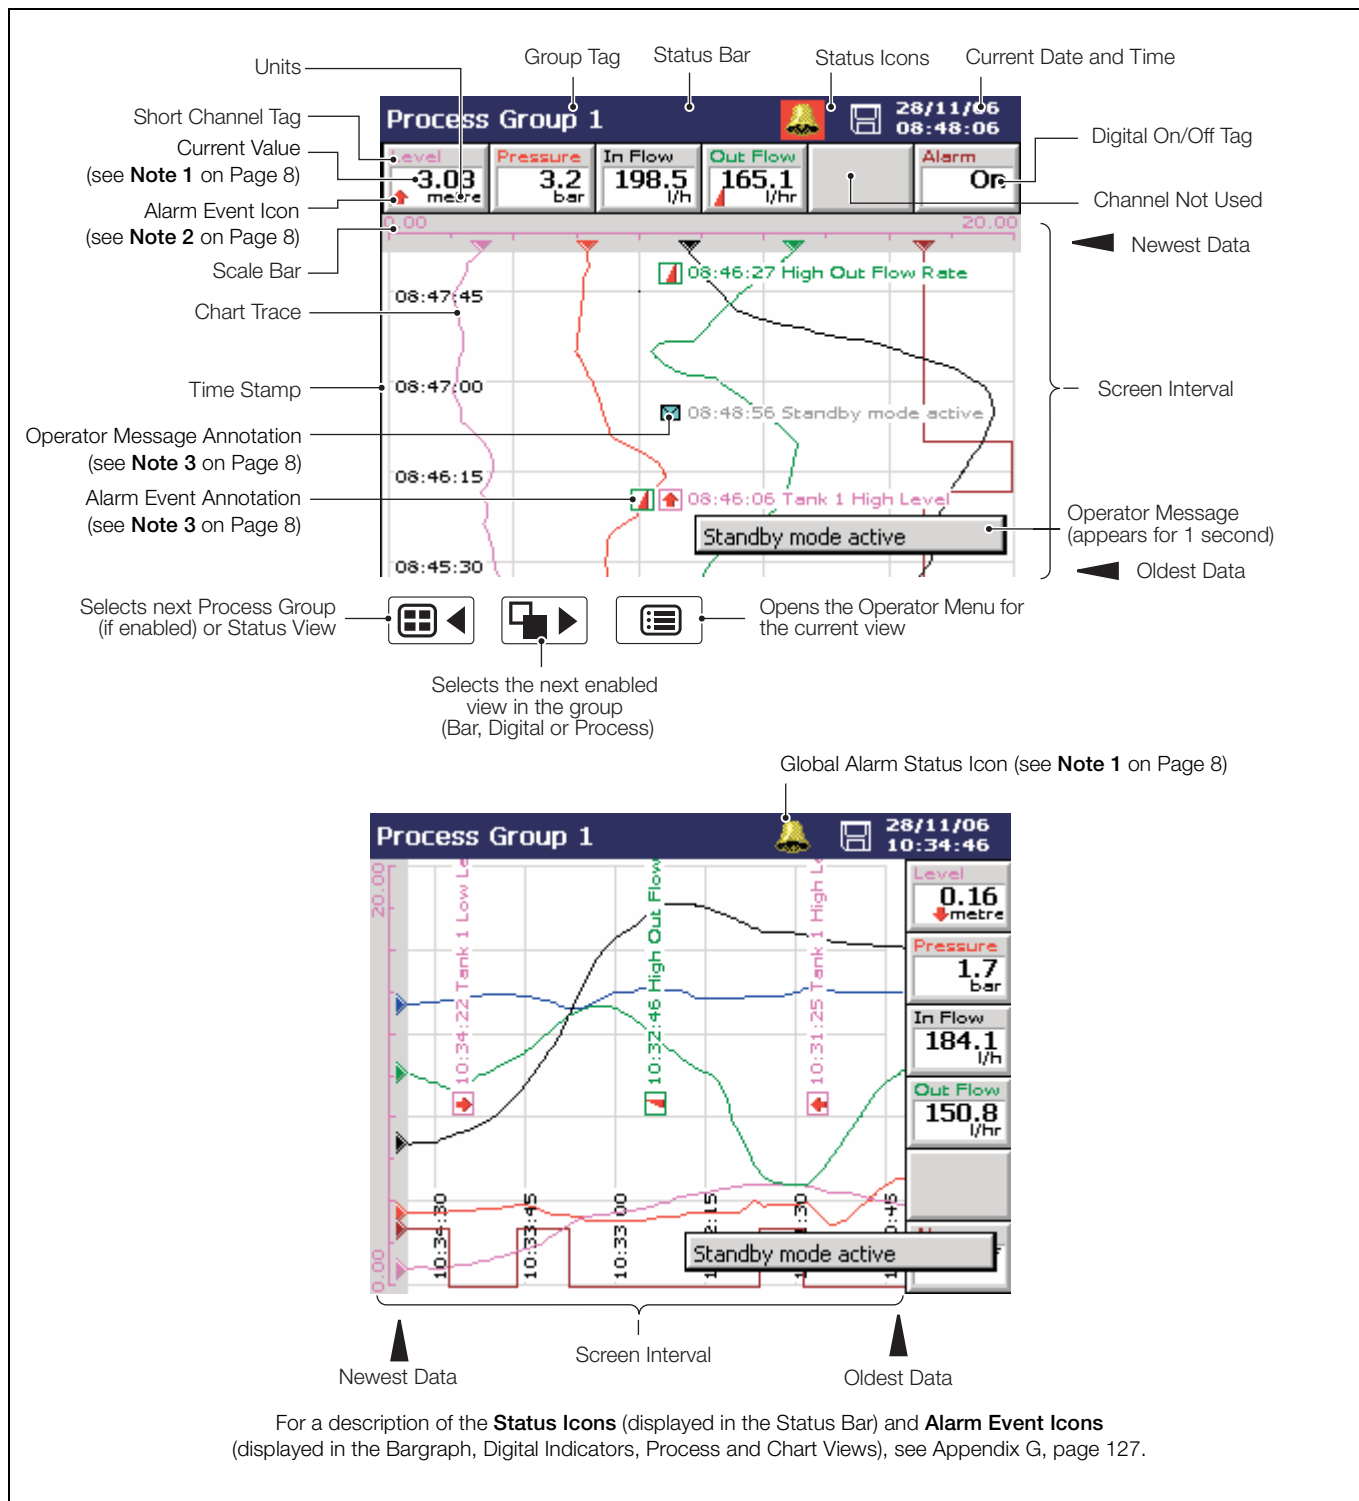

Fig. 2.3 Horizontal and Vertical Chart Views
2.3 Chart Views – Fig. 2.3
If **any** alarm in **any** process group is active, the Global Alarm status icon () is displayed in the status bar – see Fig. 2.3. If **any** active alarm in **any** process group is unacknowledged, the icon is surrounded by a red flashing border (.
Note. Active unacknowledged alarms in the current process group are identified by a flashing red Alarm Event icon in the bottom left hand corner of the associated channel indicator. Active acknowledged alarms are identified by a continuous red Alarm Event icon in the bottom left hand corner of the indicator – see Fig. 2.3, page 7.